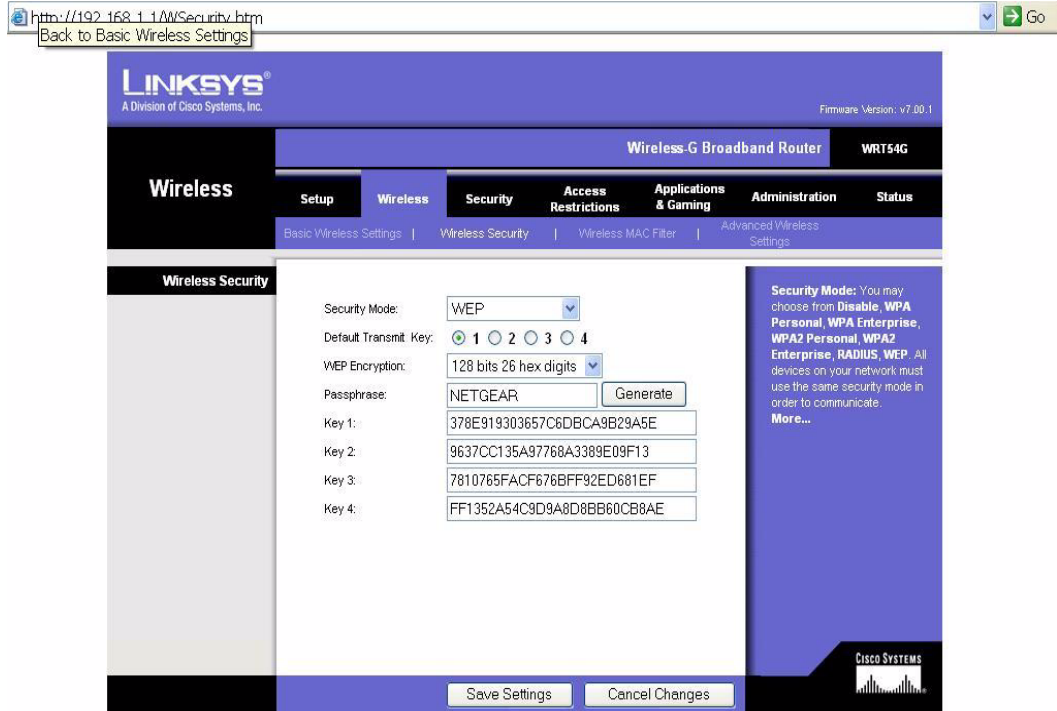

Figure 10. Wireless Security
- ▶ **Note:** *SSID and WEPKEY are provided by the wireless router. In this demo NETGEAR and 378E919303657C6DBCA9B29A5E key are used. See Figure 9 and Figure 10 on page 17.*
10. After successful connection to the BSS (AP) the network stack will be initialized and Zdots® SBC behaves as a complete wireless station.
9. Select **Wireless** → **Wireless Security**. Ensure that WEP is selected on the **Security Mode**: field as displayed in Figure 10 (Change the Security Mode to WEP through the drop down button).